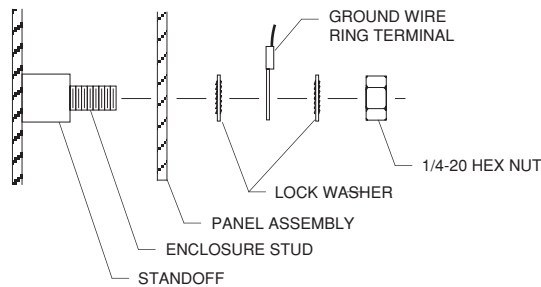

Figure 2. Ground Wire Installation
6. If a panel ground terminal is desired, attach it to one of the mounting stud locations using a ring-type terminal as shown in Figure 2.